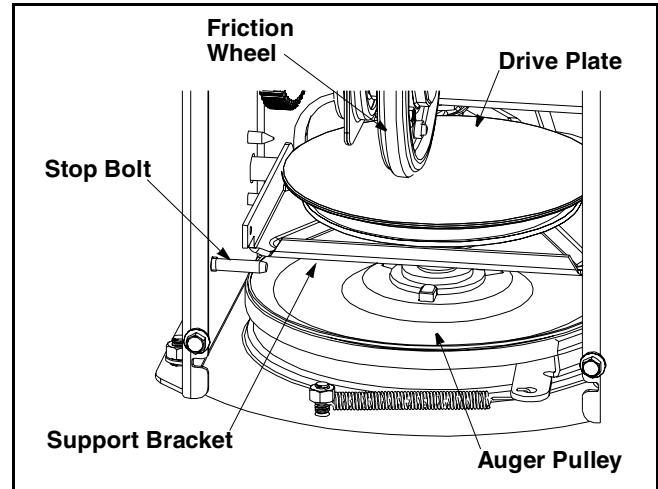

Figure 19
- Back out the stop bolt until the support bracket rests on the auger pulley. See Figure 19.